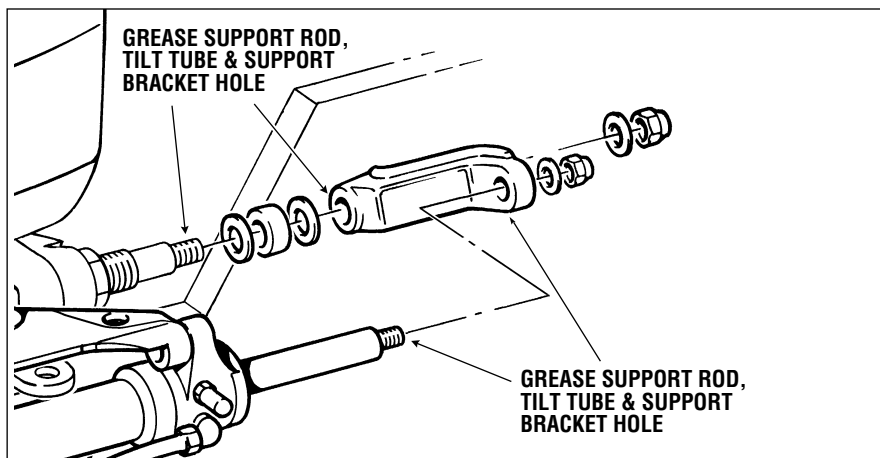

Figure 24.
4. Grease all contact points shown in figure 24. DO NOT remove tiller bolt to re-grease.